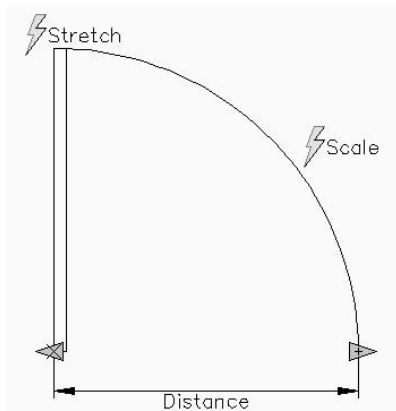

FIGURE C.16: The two Actions have been associated with the parameter.
7. Place the Scale lightning bolt symbol just outside the arc (see Figure C.16). This completes our work with the Block Authoring palette. The rest of our tasks will be accomplished with the Properties palette.